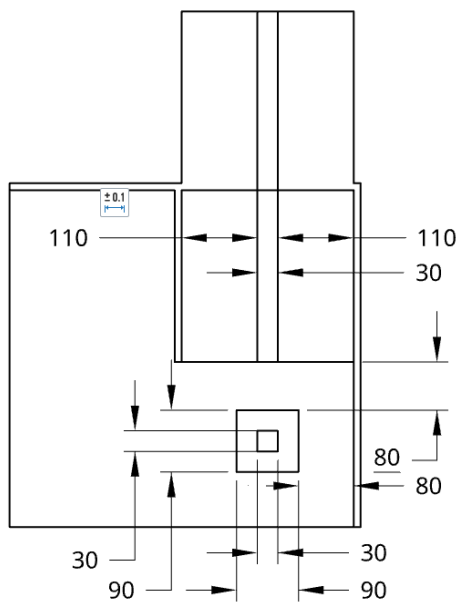

Figure 2
- Figure 2: Tile level schematics of the bridge out and bridge in tiles (white background with 3 cm black line) and the approach marker tile (9 cm white square with 3 cm black square).